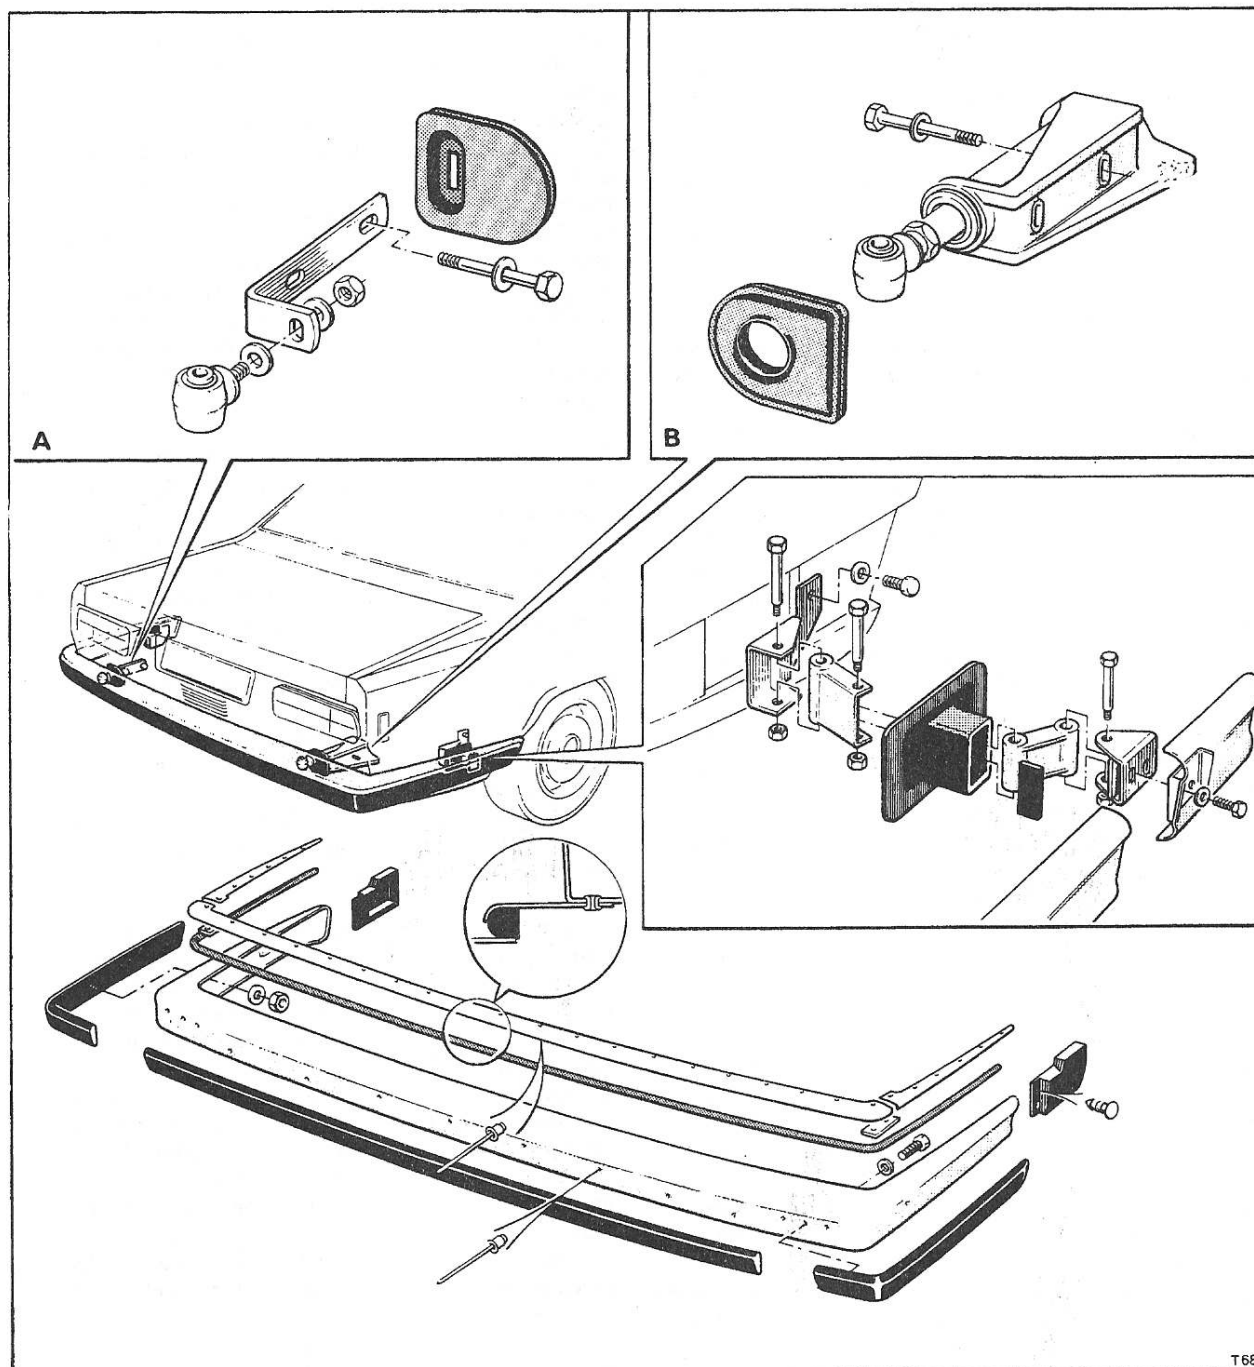

Fig. S91 Rear bumper assembly (Camargue)
Rear bumper assembly – To remove (see Fig. S91)
2. Move the front end of each moulding outwards sufficiently to gain access to the two 7/16 in. A/F bolts securing each side member to the mounting brackets then, remove the bolts. Collect the threaded plate from behind each mounting bracket (see Fig. S91, inset).
4. Remove the two 3/4 in. A/F nuts securing the adapters to the rear mounting brackets (see Fig. S91, inset A).
- Release the two bolts securing each mounting bracket to the body underframe; remove the mounting brackets and the aperture seals (see Fig. S91, inset A).
Rear bumper assembly – To fit (see Fig. S91)
Flexible closing pieces — To remove (see Fig. S91)
Flexible closing pieces — To fit (see Fig. S91)
Rear bumper side mounting brackets — To remove (see Fig. S91, inset)
Rear bumper side mounting brackets — To fit (see Fig. S91, inset)